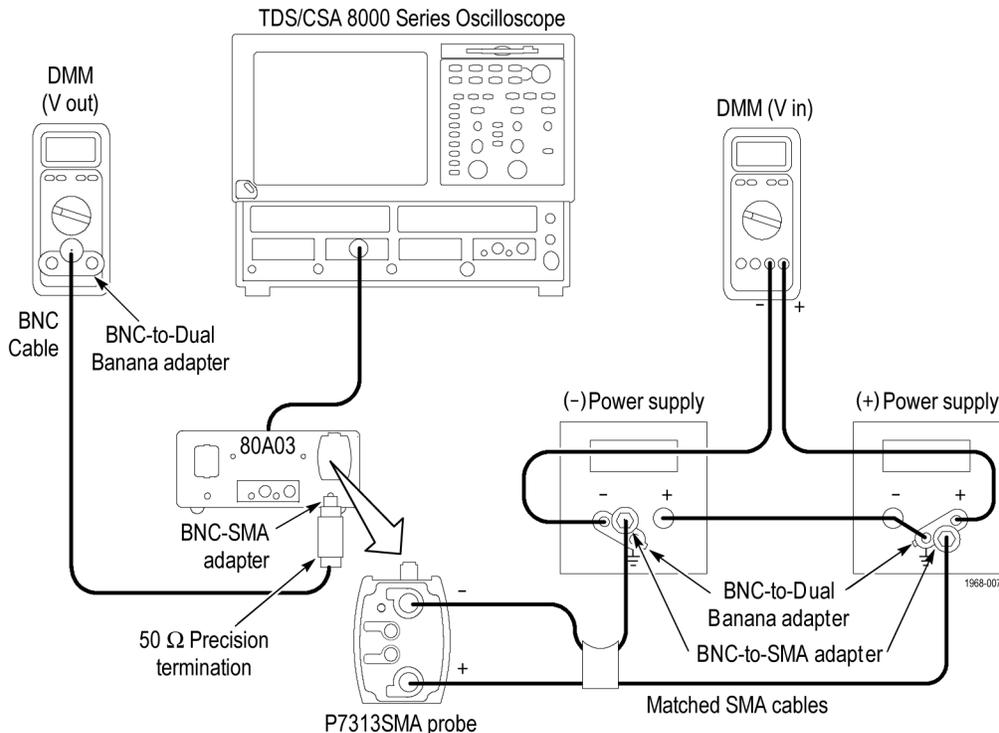

Figure 27: DC Gain Accuracy setup
2. Connect the probe to the power supplies as shown. (See Figure 27.) Make sure the ground tabs on the BNC-to-dual banana plug adapters are connected to the ground connections on the power supplies. Monitor the source voltage with one of the DMMs.